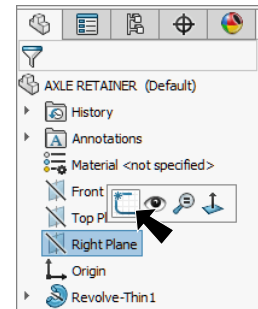

Fig. 8
Step 1. Click **Right Plane**  in the Feature Manager and click **Sketch**  on the Context toolbar, **Fig. 8**.